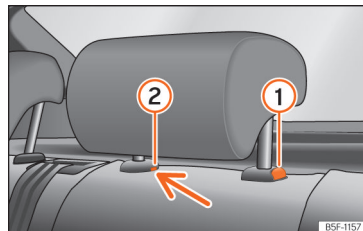

Fig.78 Rear head restraint: removal.
- Press button »» Fig. 78 ①, while simultaneously pressing on the safety hole ② with a flat screwdriver a maximum of 5 mm wide, and remove the headrest.